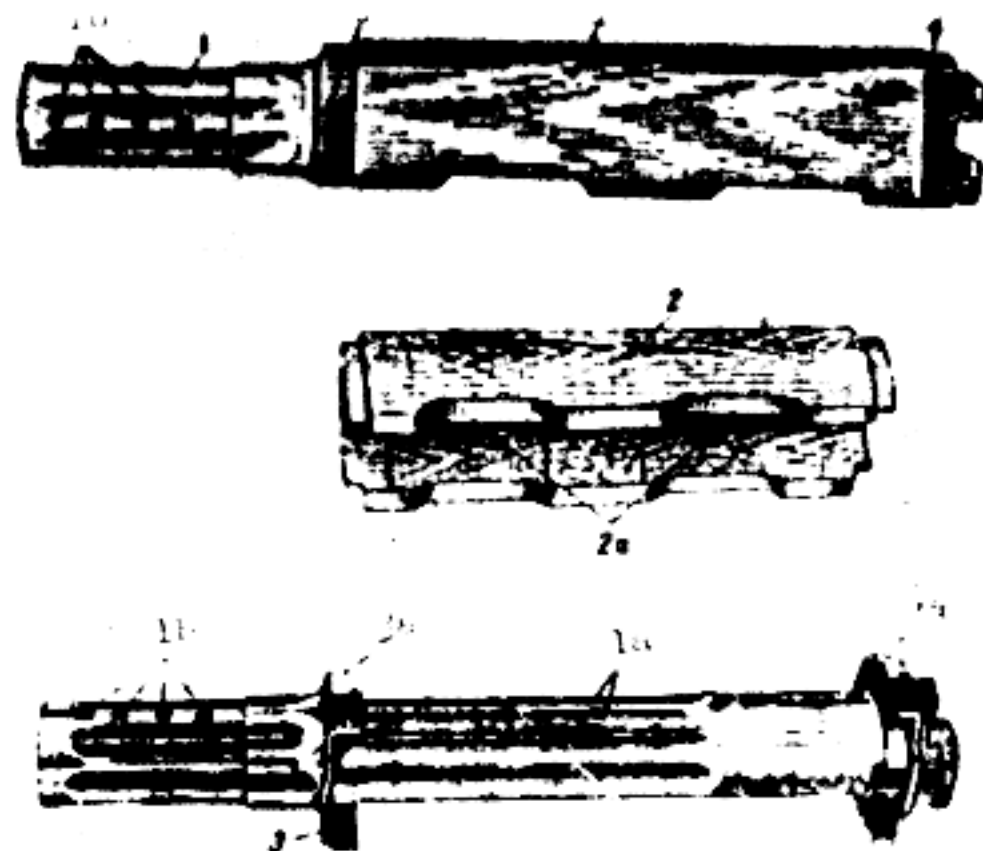

Figure 44. Gas tube with hand guard, assembled and disassembled (assy. 1-12).
The gas tube (1) (fig. 44) guides the piston and holds the hand guard. In the forward portion of the gas tube, there are eight holes (1b) (four on each side) for passing gases; in the central portion there are corrugations (1a) which decrease friction of the piston as it moves in the gas tube. The rear end of the gas tube has a cylindrical shape, and the forward end of the operating rod moves in it.